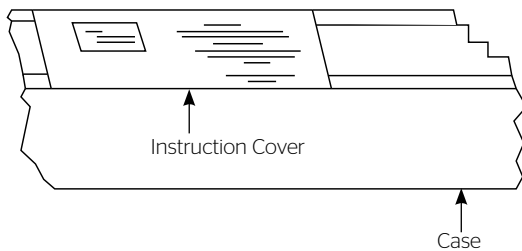

Figure 1
3. Remove instruction cover plate (Fig. 1). Do not remove wrapping paper or tape strips until screen is installed.